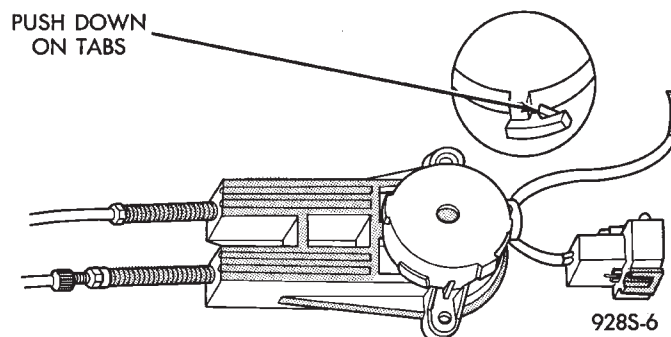

Fig. 18 Assist Spring Cover
(8) Remove assist spring by releasing the tabs on the opposite sides of the spring, do not remove spring from its case (Fig. 18).